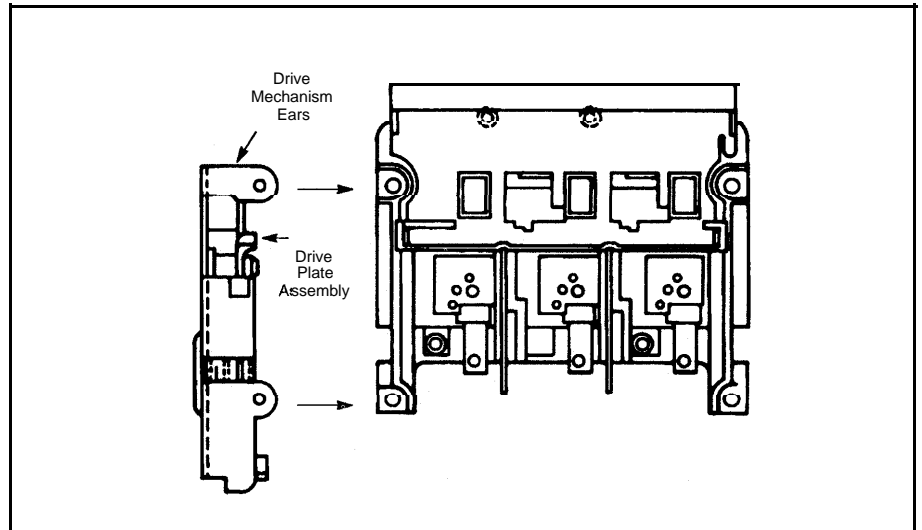

Figure 11
5. Position the drive mechanism on the left side as shown in Figure 11.
Note: Do not attempt to change the position of the drive plate assembly on the spring loaded drive mechanism (Figure 11).